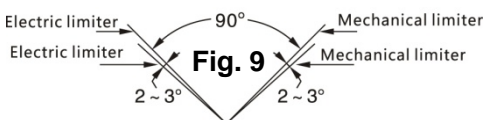

Fig. 9
- ◇ The electric limiter position and mechanical limiter position of the actuator must meet the requirement of (Fig. 9) .If mechanical limiter is ahead of or coincides with electric limiter, actuator electromotor may be blocked .It can heat up and even burn the electromotor.